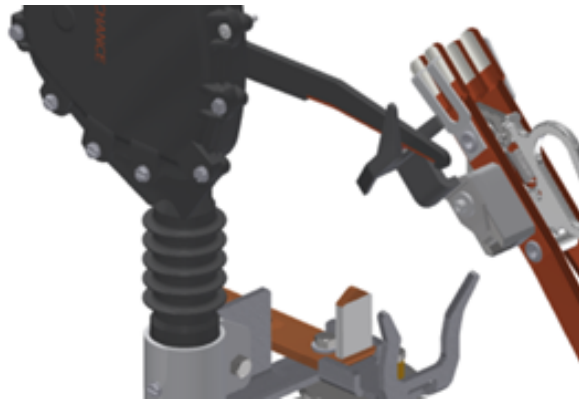

Figure 10: Interrupter trip position
- The interrupter must trip while the metal portion of the deflector’s “V” is in contact with the interrupter pick-up lever’s exposed metal surface. Refer to Figure 10